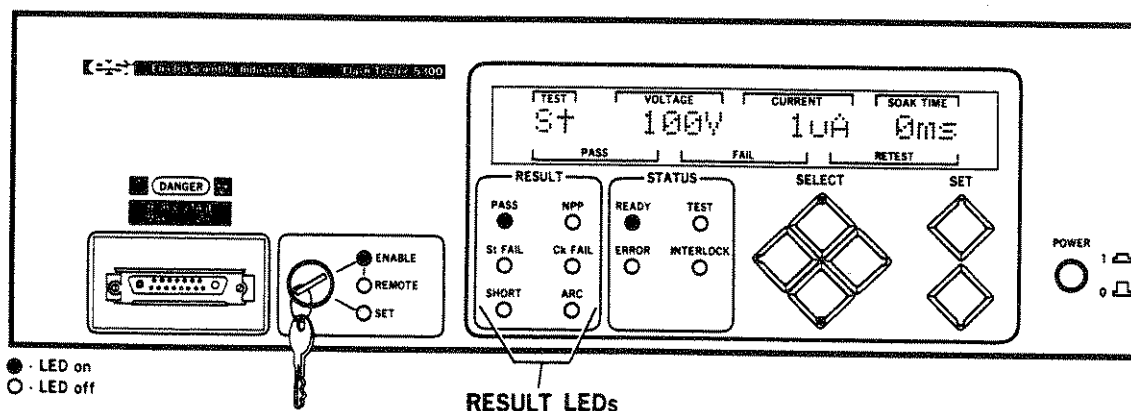

Figure 7-66. RESULT LEDs
STEP 23. The READY LED should turn off and the TEST LED should briefly illuminate to indicate a test taking place. When the test is complete, the READY LED will be illuminated, as will one RESULT LED. Refer to Figure 7-66 for the location of the RESULT LEDs.